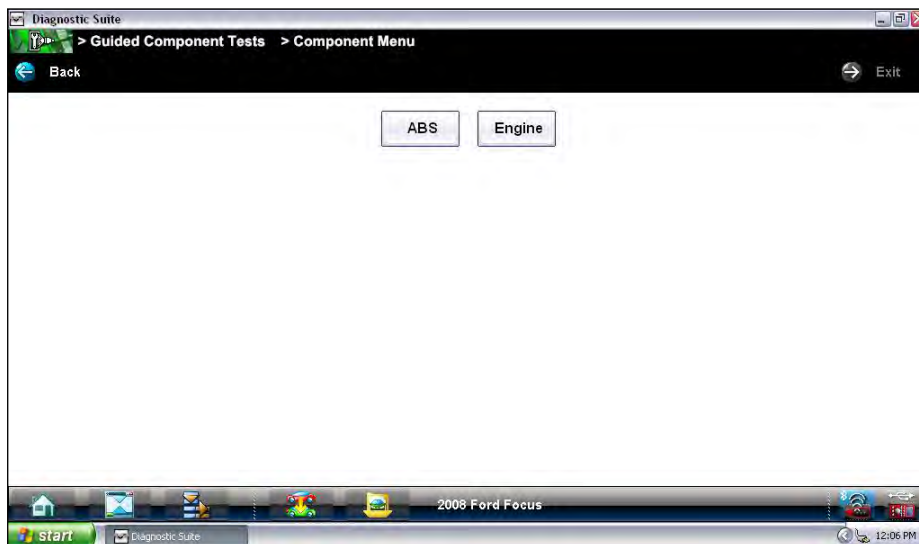

Figure 6-2 Sample available tests list
- From the confirmation dialog box, select **OK** to continue, or **Cancel** to return to the engine list. A list of tests available for the identified vehicle displays (Figure 6-2).